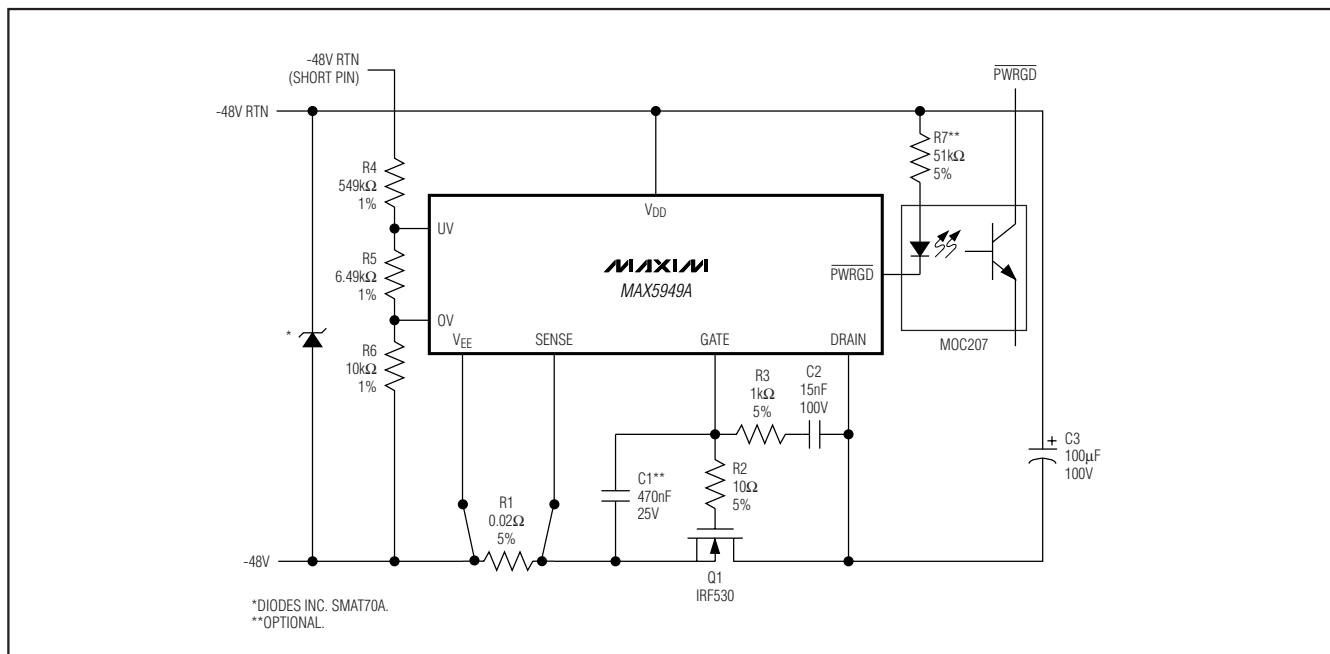

Figure 15. Using  $\overline{PWRGD}$  to Drive an Optoisolator
The  $\overline{\text{PWRGD}}$  signal can also be used to turn on an LED or optoisolator to indicate that the power is good (Figure 15) (see the *Component Selection Procedure* section).
- If an optocoupler is utilized as in Figure 15, determine the LED series resistor: